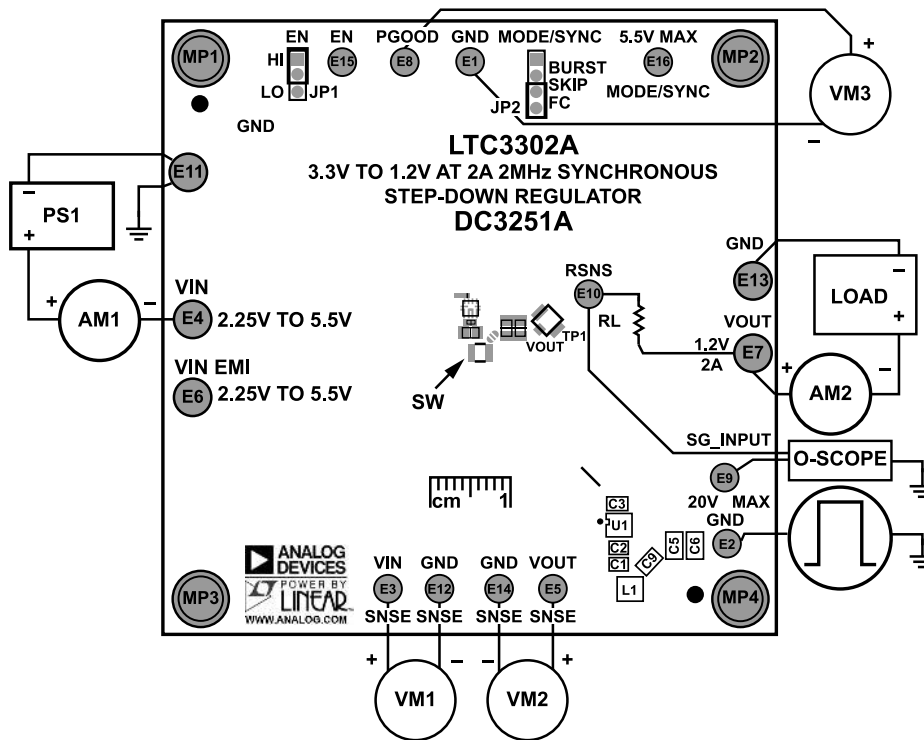

Figure 3. Test Setup for the DC3251A Demo Board
Demonstration circuit DC3251A is easy to set up and use to evaluate the performance of the LTC3302A. For the proper measurement equipment setup, see Figure 3 and follow the procedure below:
NOTE: For accurate  $V_{IN}$ ,  $V_{OUT}$ , and efficiency measurements, measure  $V_{IN}$  at the  $V_{IN}$  SNSE and GND SNSE turrets, and  $V_{OUT}$  at the  $V_{OUT}$  SNSE and GND SNSE turrets as shown as VM1 and VM2 in Figure 3. When measuring the input or output voltage ripple, care must be taken to avoid a long ground lead on the oscilloscope probe. Measure the output voltage ripple by touching the probe tip directly across the output turrets or to TP1 as shown in Figure 4. TP1 is designed for a 50  $\Omega$  coax cable to reduce any high frequency noise that might couple into the oscilloscope probes.
- To test the transient response with a base load, add the required resistor to produce a minimum load between  $V_{OUT}$  and RSNS turrets (RL shown on Figure 3). Note that the total load resistance is RL plus R8 (100 m $\Omega$ ).